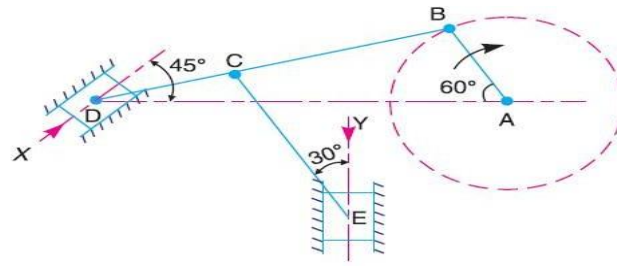

Fig. 7.30
4. The dimensions of the mechanism, as shown in Fig. 7.30, are as follows: AB = 0.45 m; BD = 1.5 m; BC = CE = 0.9 m. The crank AB turns uniformly at 180 r.p.m. in the clockwise direction and the blocks at D and E are working in frictionless guides. Draw the velocity diagram for the mechanism and find the velocities of the sliders D and E in their guides. Also determine the turning moment at A if a force of 500 N acts on D in the direction of arrow X and a force of 750 N acts on E in the direction of arrow Y. 10M